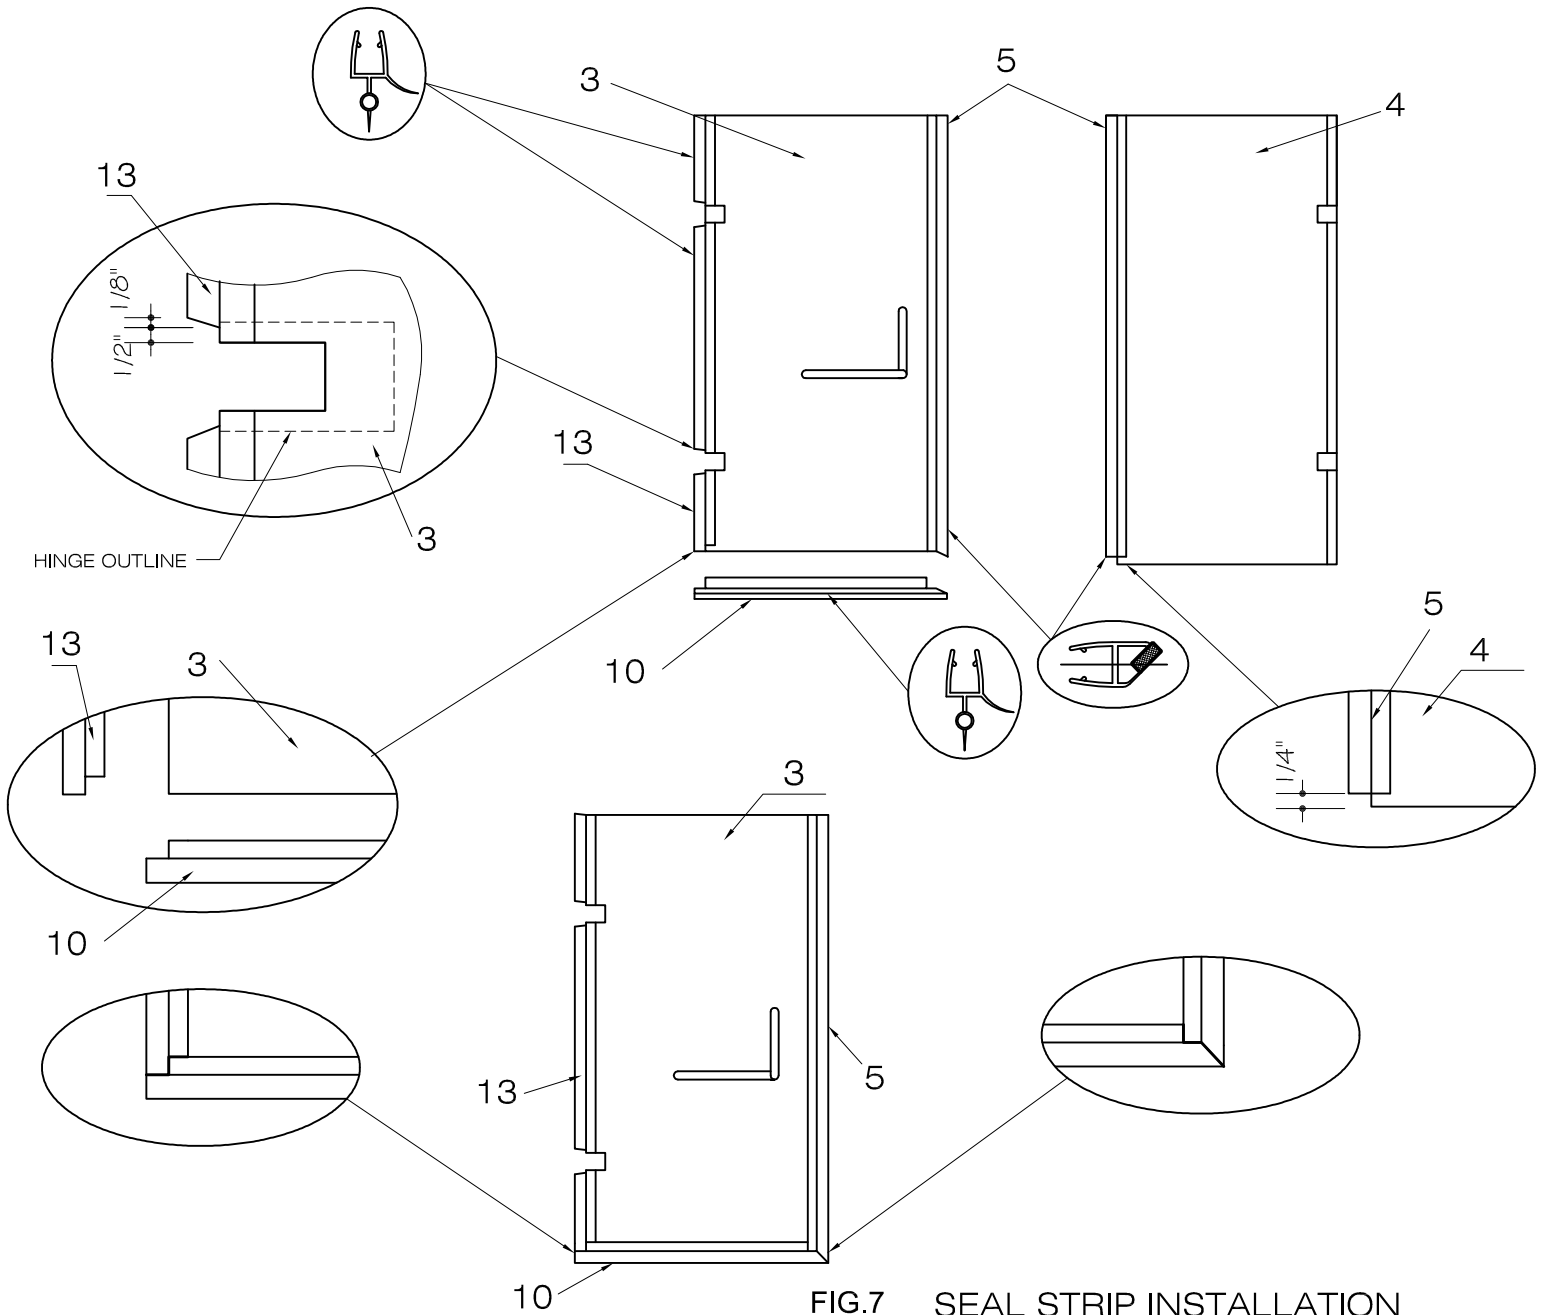

FIG.7 SEAL STRIP INSTALLATION
1. Clean all glass panel edges receiving seal strips with rubbing alcohol. [SEE FIG.7]
2. Cut seal strips (#6, #10, #13) according to seal strip diagram (FIG.7).
4. Install seal strips according to seal strip diagram (FIG.7).